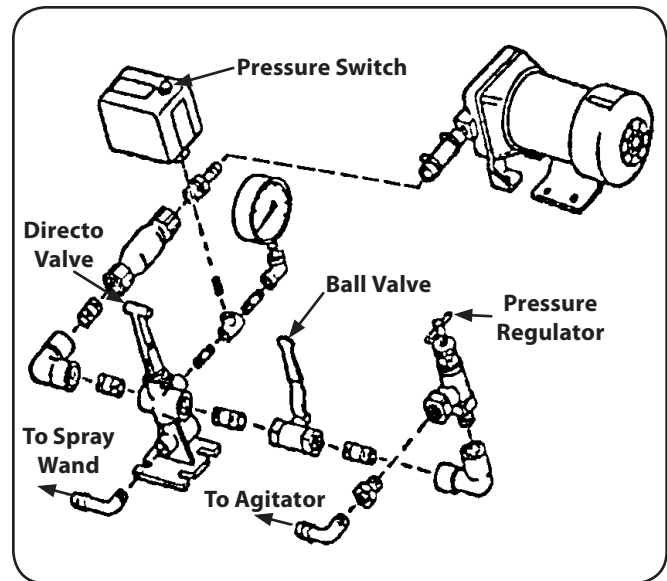

Figure 5-1
1. Close the ball valve which stops all flow to the agitator, push the handle on the directo valve down which permits flow to the spray wand and turn on the pump switch. See Fig. 5-1.
3. The pressure gauge should show no more than 45 psi when the spray wand is off. This is controlled by the pressure switch which is preset at the factory. See Fig. 5-1.
Open the ball valve which permits flow to the agitator, push the handle on the direct valve down which permits flow to the spray wand and turn on the pump switch. Now adjust the pressure regulator until the desired flow rate out of the spray wand is achieved. See Fig. 5-1.